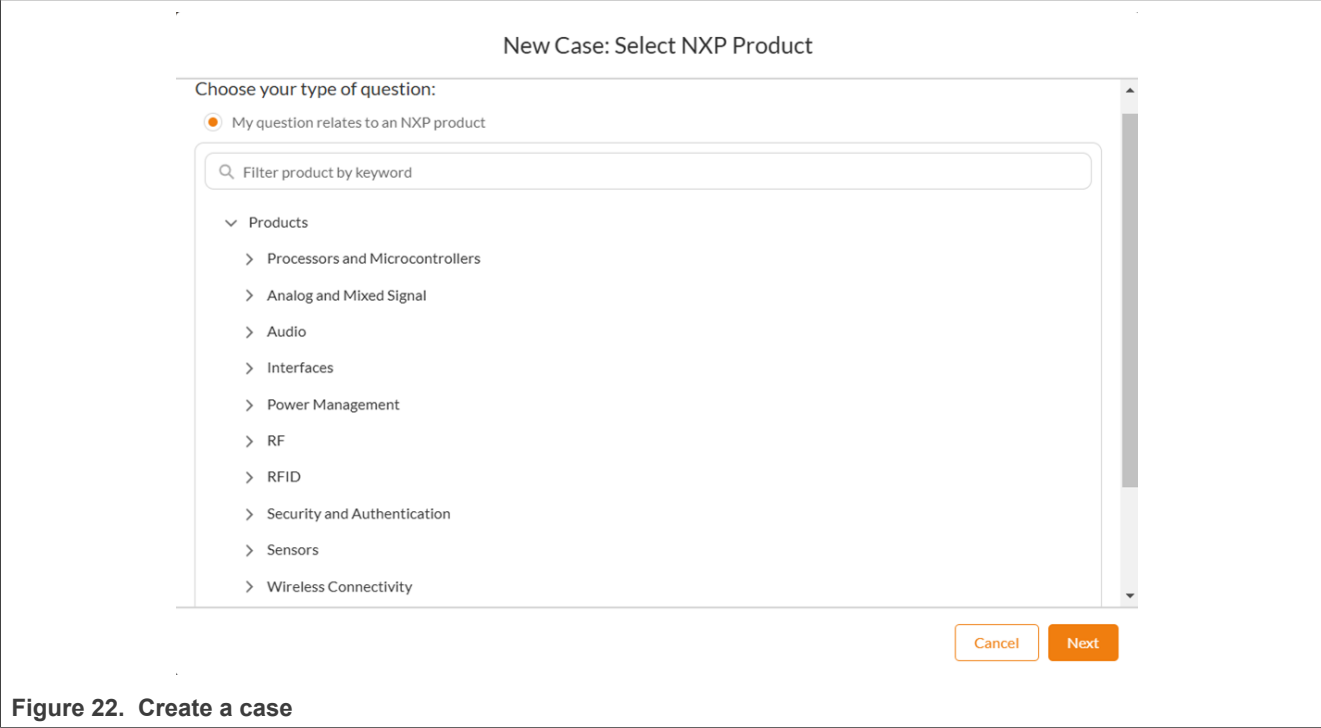

Figure 22. Create a case
Step 3 – Create a case (Figure 22).